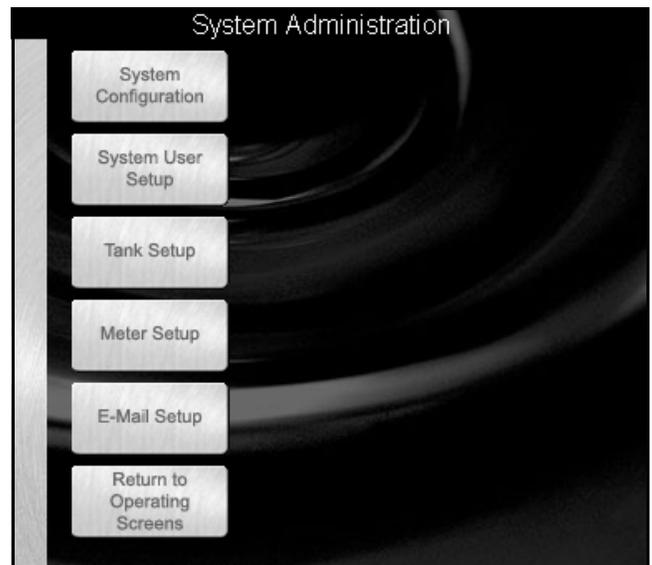

FIG. 42 System Administration Screen
1. Key in your user information and click **Submit**. For initial log on only, type in **matrix** (lowercase) for user name and **graco** (lowercase) for the password. Click **Submit**. Once the initial log on information is authenticated, the System Administration screen appears. See FIG. 42.